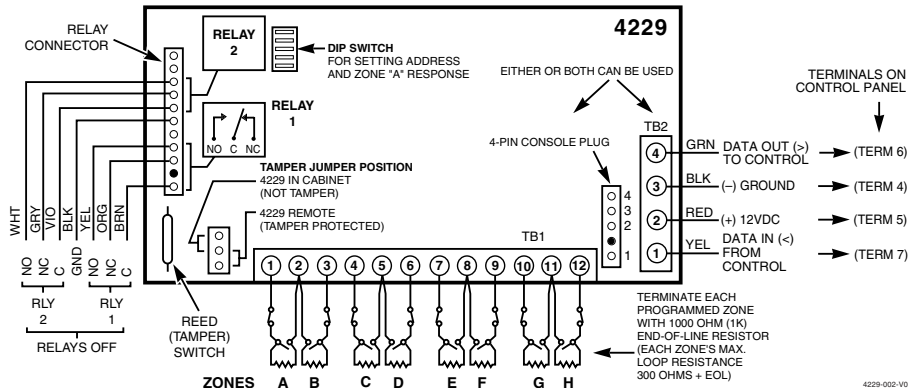

Figure 10. Wiring Connections, 4219 & 4229 (4229 shown)
2. Connect sensors to the module’s loops. See Figure 10 on the following page.